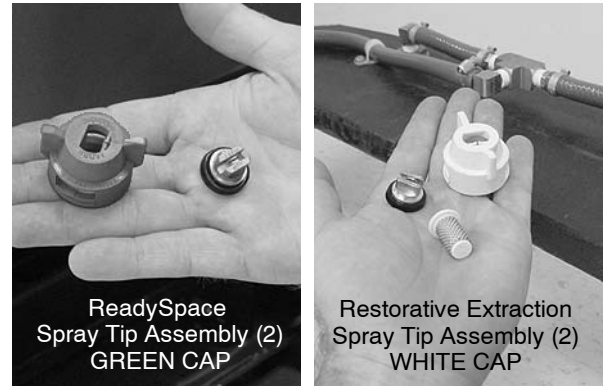

FIG. 34
3. Remove the four quick-release spray tips from the scrub head (Figure 32). Turn spray tip caps counter-clockwise to remove. Soak the tips and screens in an acetic acid solution for up to six hours (Figure 34). Follow the mixing directions on the bottle. Do not use pointed objects to clean tips, damage will occur.